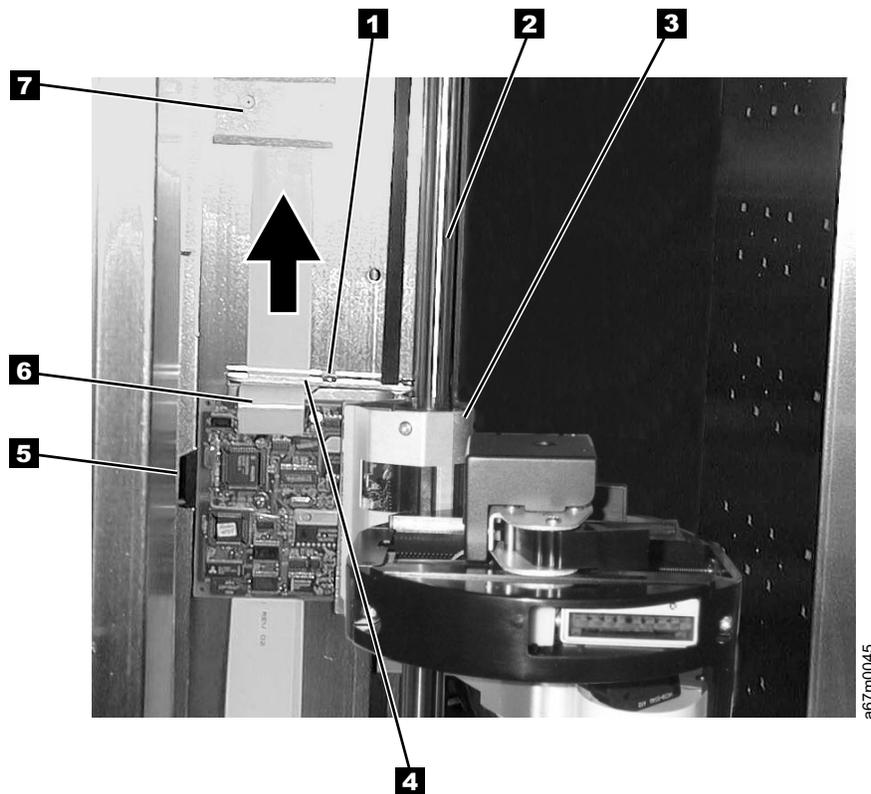

Figure 7-13. Y-Axis Drive Belt Removal and Replacement
- See Figure 7-13 on page 7-17 for step 10 through step 13:
See Figure 7-13 for step 10 through step 13:
11. See Figure 7-13 on page 7-17 for next three steps. Fasten the Picker Assembly Casting to the belt clamp plate using two T20 Torx screws **1** removed in step 13 on page 7-17. Ensure the Picker Guide **5** is properly installed on Picker Guide Rail.